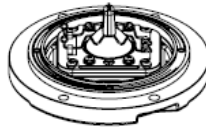

Figure 5-6
- Replace the new lamp and fasten the lamp jump spring again (see Figure 5-6).